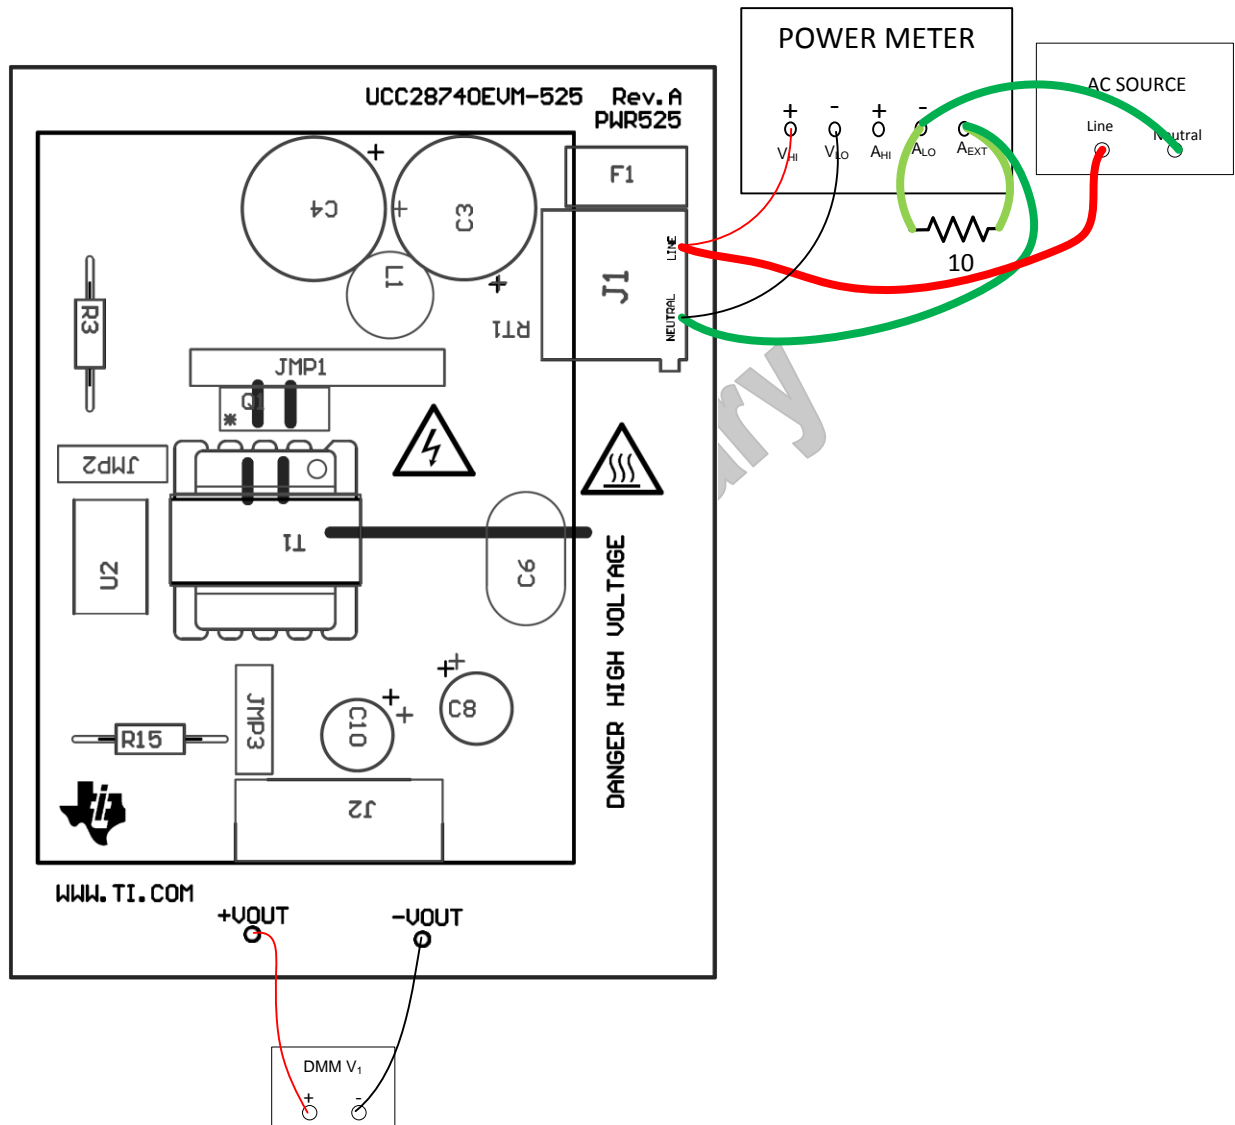
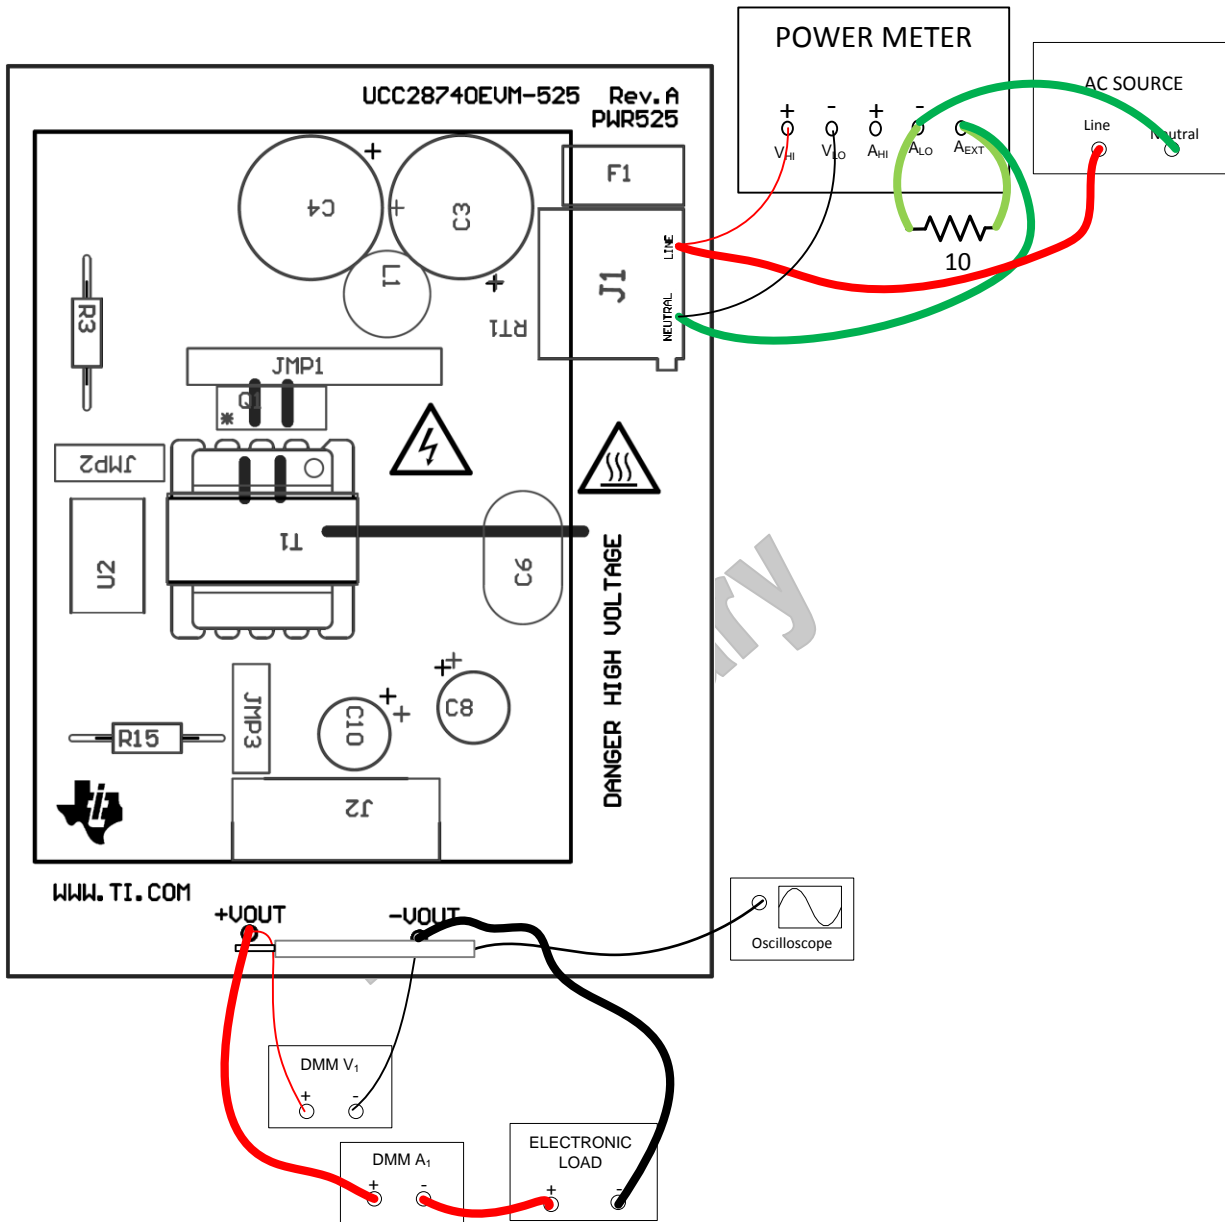

Figure 2. UCC28740EVM-525 Recommended Test Set Up For No-Load Operation
Figure 3. UCC28740EVM-525 Recommended Test Set Up With Load
| Figure 2. | UCC28740EVM-525 Recommended Test Set Up For No-Load Operation | 9 |
| Figure 3. | UCC28740EVM-525 Recommended Test Set Up With Load..... | 10 |
Figure 2 shows the equipment set up when measuring the input power consumption during no-load operation. Note the addition of the $10\ \Omega$ shunt resistor in Figure 2. During the no-load test, the power analyzer should be set for long averaging mode in order to include several cycles of operation and an appropriate current scale factor for using the external shunt must be used. Figure 3 shows the recommended test equipment set up to evaluate the UCC28740EVM-525 with a load.
AC Voltage Source: The input source shall be an isolated variable AC source capable of supplying between $85\ V_{AC}$ and $265\ V_{AC}$ at no less than $20\ W$ and connected as shown in Figures 2 and 3. For accurate efficiency calculations, a power meter should be inserted between the neutral line of the AC source and the Neutral terminal of the EVM. For highest accuracy, connect the voltage terminals of the power meter directly across the Line and Neutral terminals of the EVM.
Power Meter: A power analyzer shall be capable of measuring low input current, typically less than $10\ mA$, and a long averaging mode, if low power standby mode input power measurements are to be taken. An example of such an analyzer is the Voltech PM100 Single Phase Power Analyzer. An external $10\ \Omega$ shunt, with a current scale factor of $10\ A/V$, was used at a high sample rate over an extended period of time in order to display the averaged results (refer to Figure 2).
Multimeters: For highest accuracy, V_{OUT} can be monitored by connecting a DC voltmeter, DMM V_1 , directly across the $+V_{OUT}$ and $-V_{OUT}$ terminals as shown in Figure 2 and Figure 3. A DC current meter, DMM A_1 , should be placed in series with the electronic load for accurate output current measurements.
1. Set up the EVM as shown in Figure 2 if testing at no-load, or Figure 3 if testing with a load.
1. Use the test set up shown in Figure 2.
1. For load regulation, use the test set up shown in Figure 3.
2. For line regulation, use the test set up shown in Figure 3